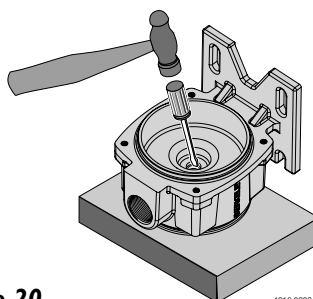

Figure 20
4. Turn the bracket motor side up on the bench and use a screwdriver to carefully tap the stationary seal half out of the bracket (see Figure 20).